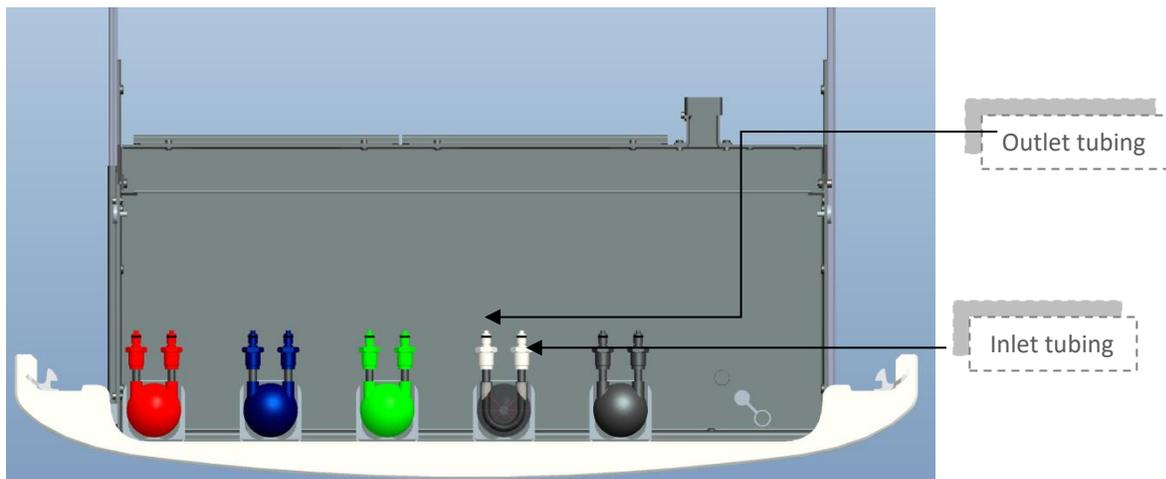

FIGURE 4: CARBOY TRAY IN THE INSTRUMENT
There are five (5) pairs of sockets in Carboy Tray. Each pair consists of two connector's one tubing as inlet and other (Figure 4) as outlet for peristaltic pump. When connecting carboy in the Carboy tray, make sure to match the position of the carboy with the color of the peristaltic pump mounted in the Carboy Tray.